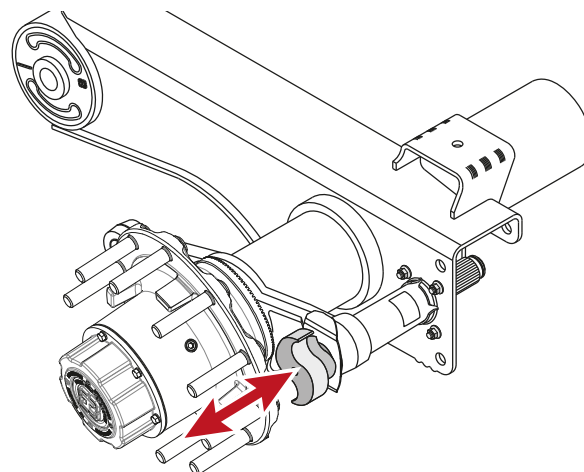

Figure 27: Axial (End) Play 1.5 mm Maximum
7. Check S-cam axial (end) play. Check S-cam axial (end) play. End play should be between 0.1 and 1.6 mm (0.005 to 0.060”). If end play is out of specification, correct it by removing the slack adjuster retaining ring (circlip). Add or subtract washers, as necessary. Refer Figure 27. Excessive axial end play reduces S-cam bush service life. Accordingly, it is good practice to adjust end play to minimum clearance without making it tight.
8. Check S-cam radial play. Replace the bushes and seals if it is more than 1.5 mm (0.060"). Check condition of S-cam bearing journal and replace if necessary. Refer Figure 27.